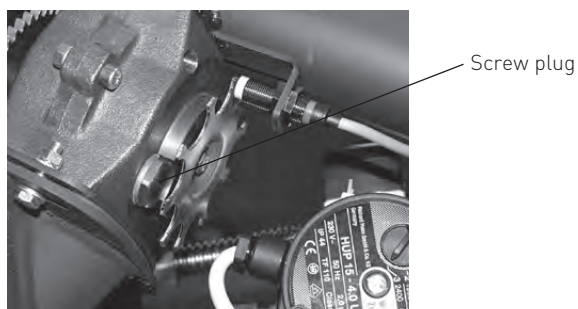

Fig. 158 Removing dust from the rotary feeder
- Unscrew the screw plug (WAF 22) from the rotary feeder (Fig. 158) and vacuum pellet dust out of the rotary feeder using a vacuum cleaner.